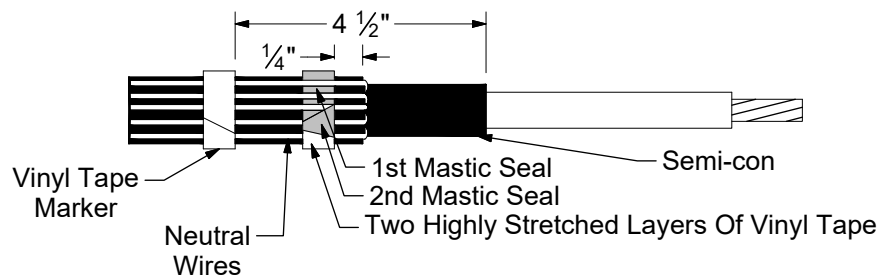

Figure 3
4. Bend neutral wires back over applied mastic. Secure the wires to the cable jacket with vinyl tape. The tape should be placed a distance of 4-1/2" from the edge of the semi-con. See Figure 3.
5. Select a second mastic strip from the kit and remove the white release liners. Apply a second mastic band over the neutral wires and the previously applied mastic. Cut off excess. See Figure 3.
6. Compress the neutral wires into the mastic. Over-wrap the mastic strips with two highly stretched layers of vinyl tape. Be sure that all exposed mastic is covered. See Figure 3.